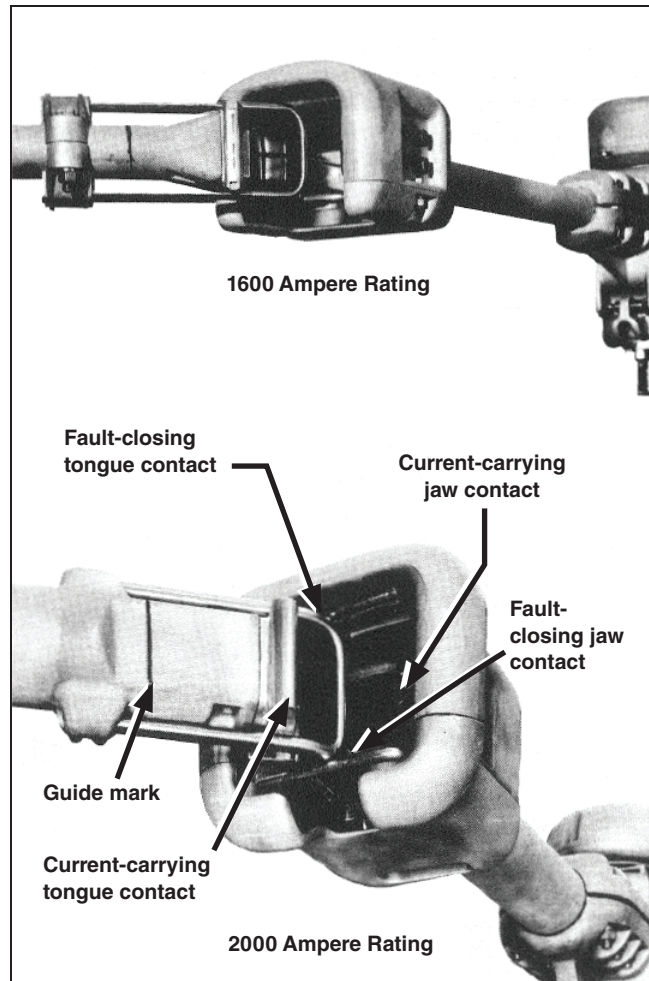

Figure 5. Blade-contact detail.
- (c) As the circuit-switcher moves toward the **Closed** position, rotation should progress smoothly with the fault-closing tongue contact in proper mesh with the fault-closing jaw contact and with the current-carrying tongue contact entering the current-carrying jaw contact evenly. See Figure 5. The same engagement should be attained after the live parts have been removed and reassembled on the insulator stacks.
STEP 20. Open and close the circuit-switcher pole-unit to check blade entry. The current-carrying tongue contacts should enter the current-carrying jaw contacts evenly with no tendency to clash against either side. See Figure 5 on page 10.